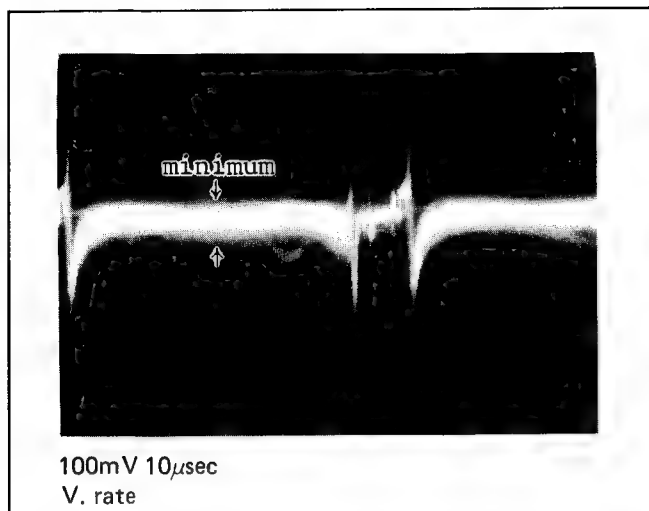

Fig. 31 Waveform of TP316
3. Alternately adjust VR314 and VR315 so that the signal level is minimized as shown in Fig. 31.